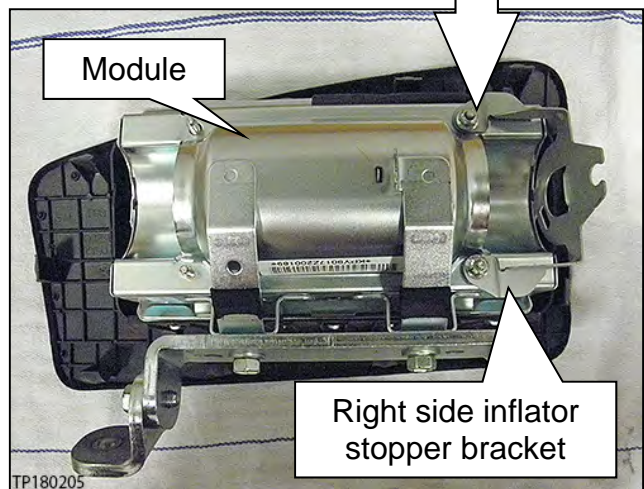

Figure 35
40. Install the right side inflator stopper bracket with nuts finger tight (Figure 35).